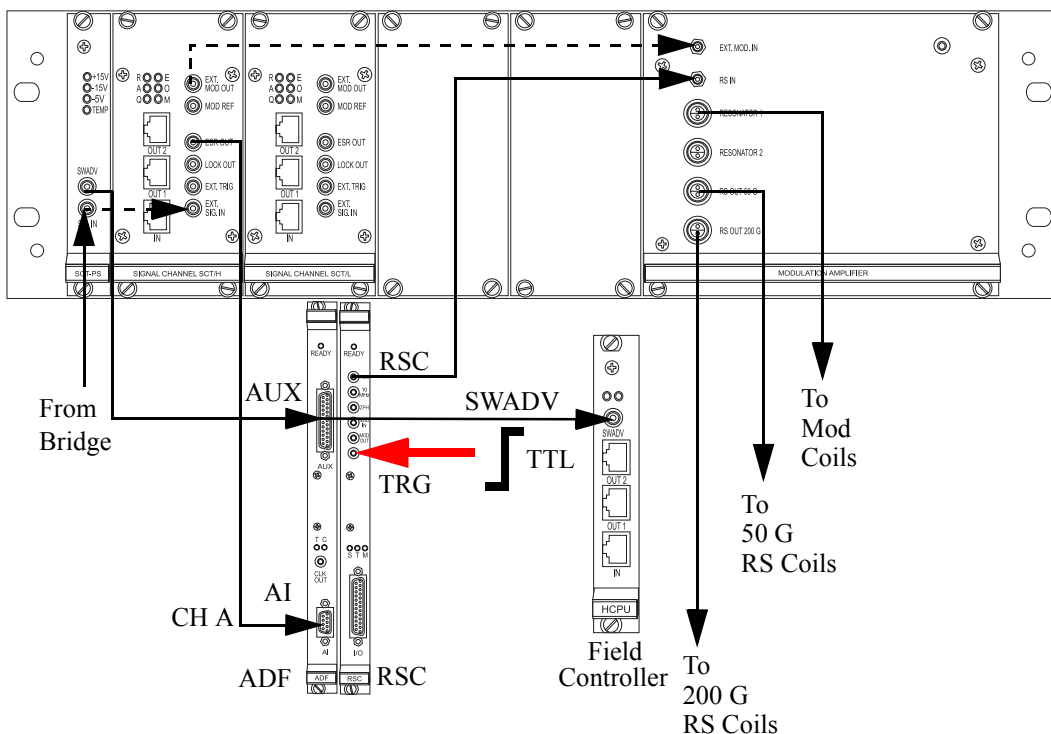

Figure 14-14 Configuration for externally triggered rapid field sweeps.
1. **Provide an external trigger.** Connect an external cable carrying a TTL (5 volt) positive-going trigger pulse to the TRG connector of the RSC board. (See Figure 14-14.) Take care about the impedance, *i.e.* make sure the trigger voltage is high enough after the cable is connected.